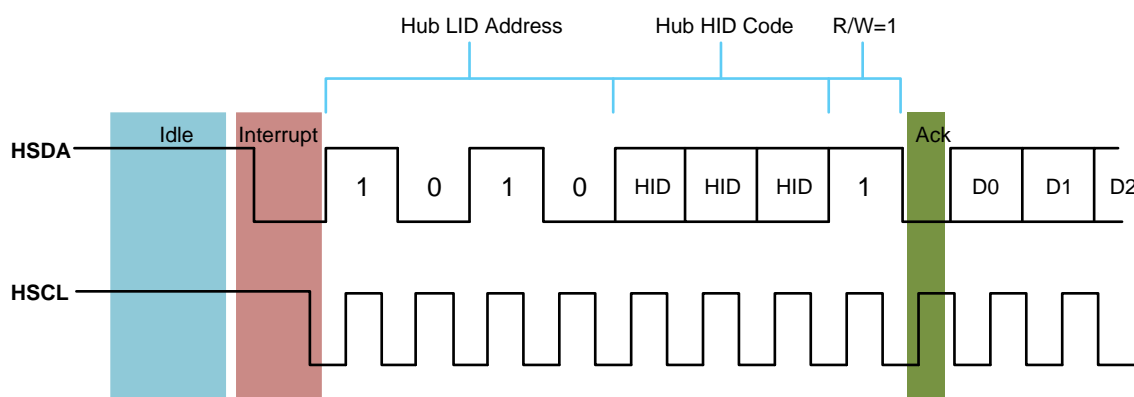

Figure 13. SPD5 Hub Interrupt; Host Ack Followed by SPD5 Hub Device IBI Payload
- The Host sends ACK on 9th bit to accept the interrupt request. At this point, if the SPD5 Hub confirms that it has won the arbitration, the SPD5 Hub device transmits the IBI payload as shown in Table 75 and Table 76 for PEC disabled and PEC enabled configuration, respectively. See Figure 13. It just shows only first two data bits of the MDB byte to illustrate the timing. The interrupt payload contains MDB followed by 8-bit register contents of MR51 and MR52 in order. The Host then issues the STOP command. Note the timing waveform in Figure 13. The Host then accepts the IBI payload if it sends an ACK on 9th bit to accept the interrupt request. The Host can interrupt the IBI payload at 'T'. If Host stops the IBI payload at 'T' bit in the middle of payload, the SPD5 Hub device retains the IBI status flag MR48[7] = '1' and Pending Interrupt Bits [3:0] internally and waits for the next opportunity to request an interrupt. If the SPD5 Hub device successfully transmits the entire